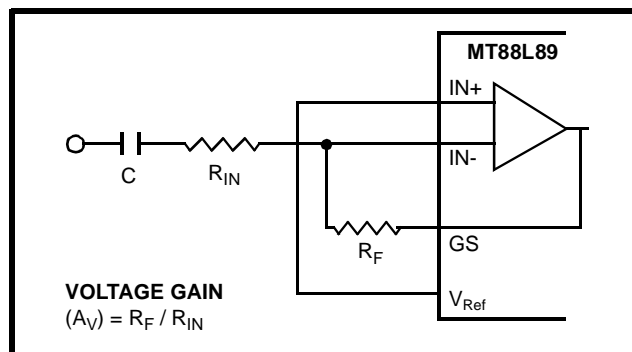

Figure 3 - Single-Ended Input Configuration
The input arrangement of the MT88L89 provides a differential-input operational amplifier as well as a bias source (V_{Ref}), which is used to bias the inputs at V_{DD}/2. Provision is made for connection of a feedback resistor to the op-amp output (GS) for gain adjustment. In a single-ended configuration, the input pins are connected as shown in Figure 3.